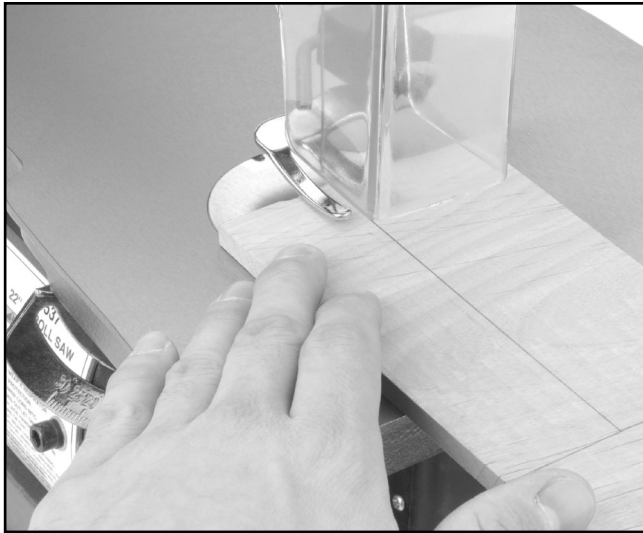

Figure 12. Straight cut.
3. Feed the workpiece slowly and steadily into the blade, keeping your hands to either side of the cutting line while pushing down. Make sure the blade is cutting on the waste side of the line (**Figure 12**).